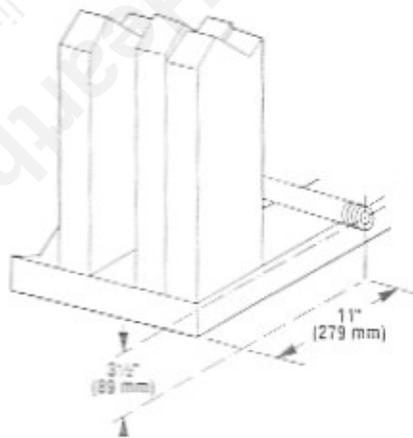

Figure 8
Step 2. Route a 1/2" (13 mm) gas line along the left or right side framing (Figure 8).